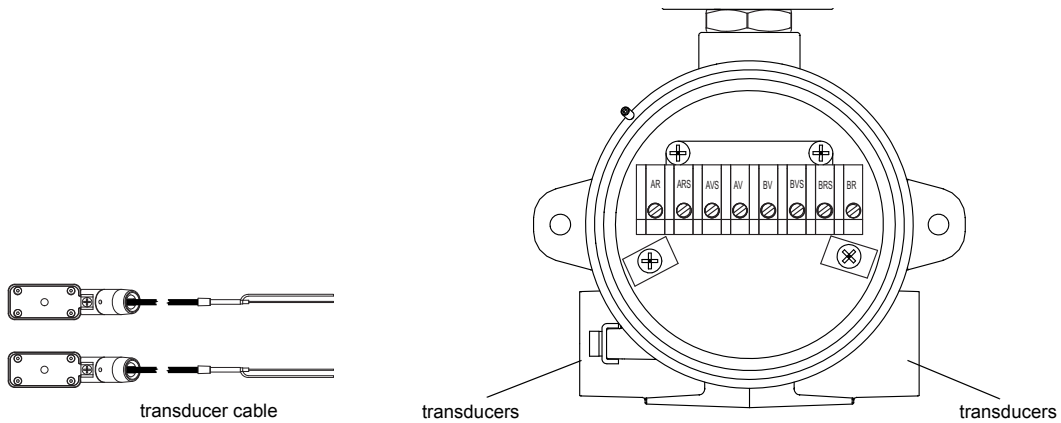

Fig. 7.13: Connection of the transducer cable
- Remove the blind plug for the connection of the transducer cable (see Fig. 7.13).
- Connect the transducer cable to the terminals of the transmitter (see Fig. 7.13 and Tab. 7.8).